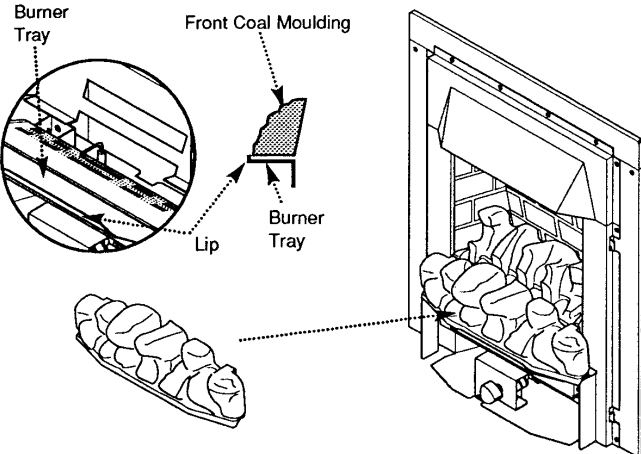

Fig. 27
2. Carefully position the front coal moulding on the front part of the burner tray with the front edge of the moulding behind the lip. The rear edge of the moulding should then rest on the front of the burner. The front and rear coal mouldings should be touching each other at both sides of the firebed (Fig. 27).